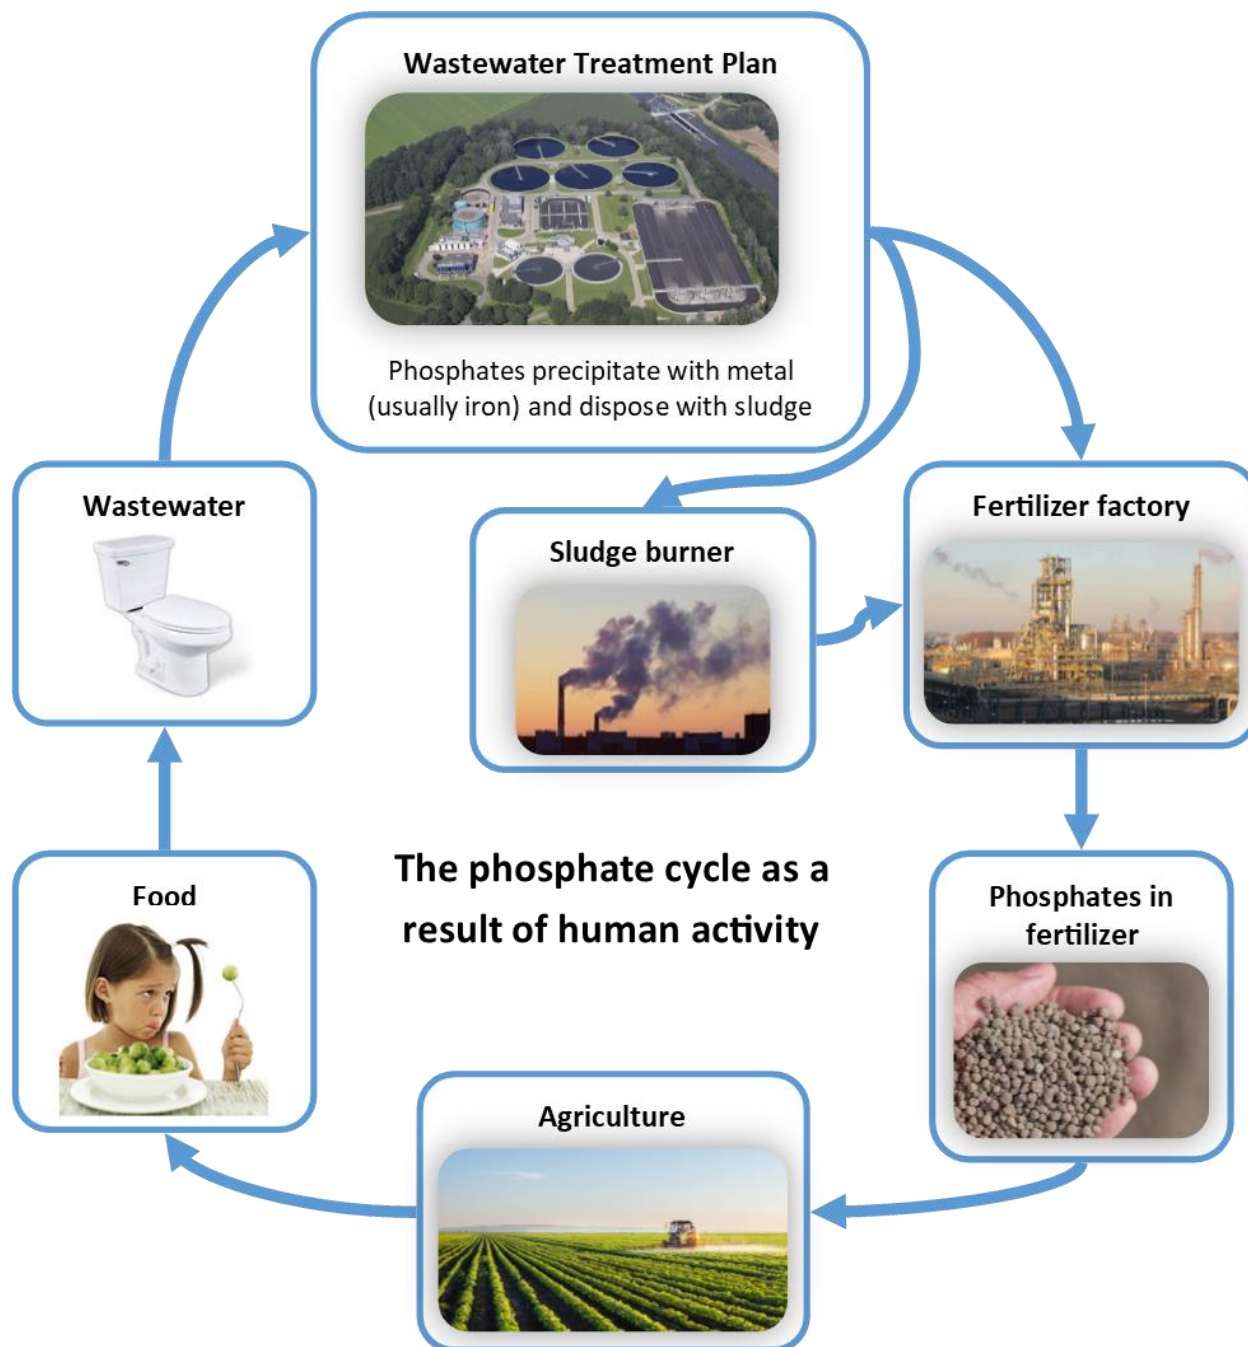

Figure 1, The phosphate cycle as a result of human activity.
Phosphate is now partly recovered in the Netherlands by wastewater treatment plants (Figure 1).
2. What step in the wastewater treatment process is not logical when you look at the nitrogen and phosphorus cycle in Figure 1 and 4?